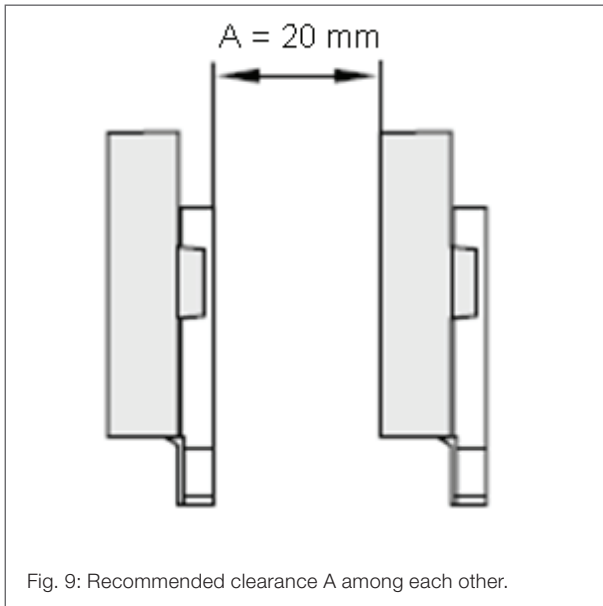

Fig. 9: Recommended clearance A among each other.
- For multiple sensor arrangements, it is recommended to place the sensors including their current feeds with a clearance (A) of at least  $20\text{ mm}$  to each other as shown in Fig. 9. A smaller distance may cause cross talk to adjacent sensors. The primary current feeds in the PCB may not to be routed underneath a sensor.